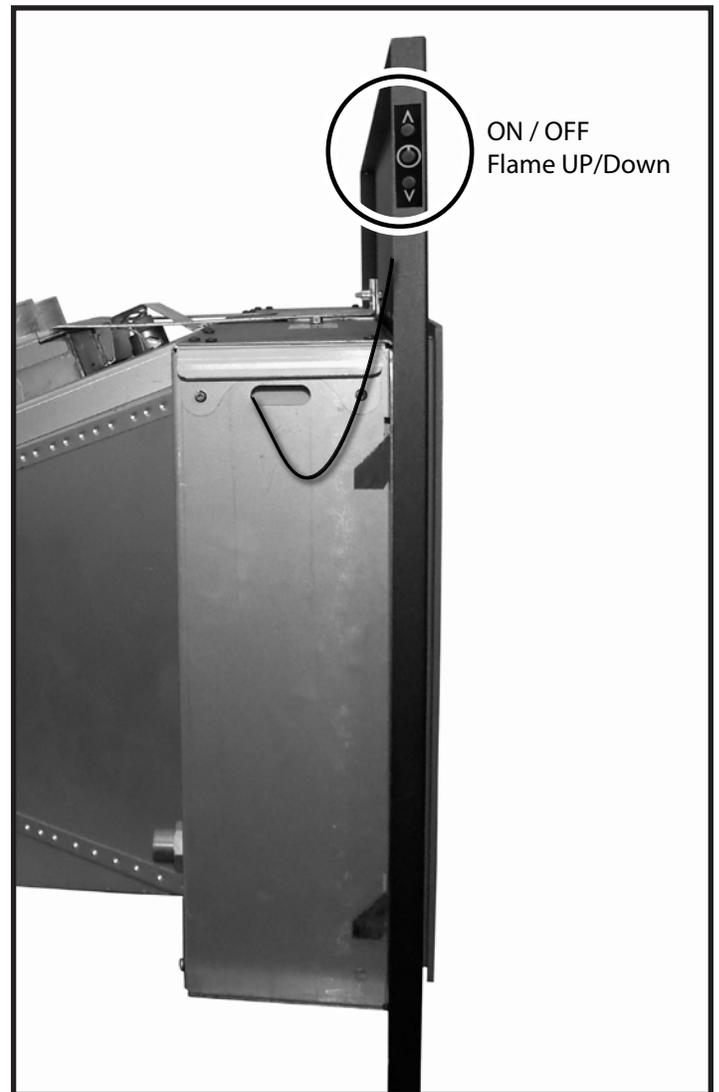

Figure 95: On Off switch location for Maxitrol units.
4. Install the surround backing plate and surround (Figure 95).